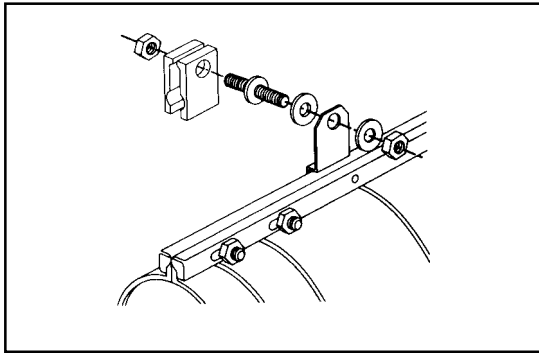

FIGURE 40 – AERIAL SUSPENSION PLATES
15.02 Aerial applications require that the suspension plates be installed to the back LOCKBAR Fastener prior to its application to the Splice Case. Special holes are provided on either side of the back LOCKBAR Fastening Assembly for this purpose. (Figure 40)